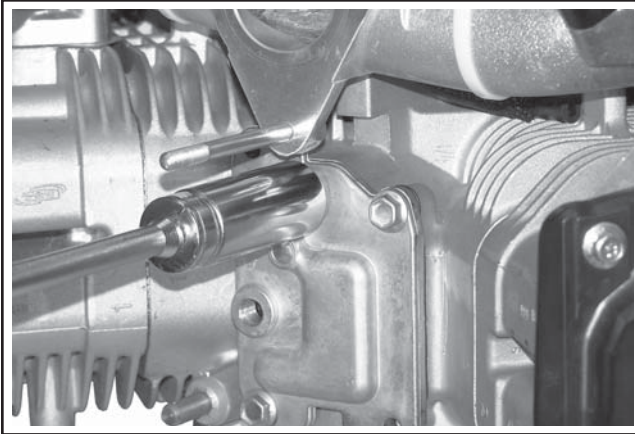

Figure 10-53. Torque Oil Temperature Sensor.
2. Torque the sensor to **7.3 N·m (65 in. lb.)**. See Figure 10-53.